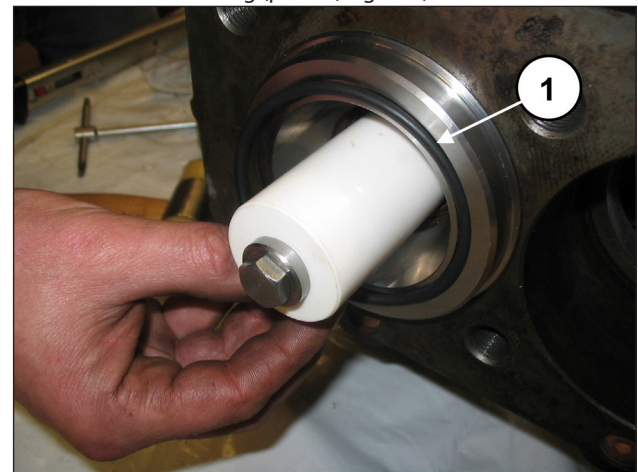
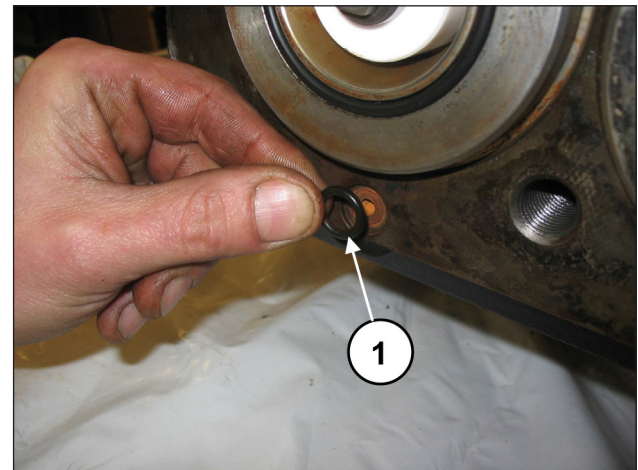

Fig. 152
Fig. 153
Install the front O-ring in the liner (pos. ①, Fig. 152) and the recirculation hole O-ring (pos. ①, Fig. 153).